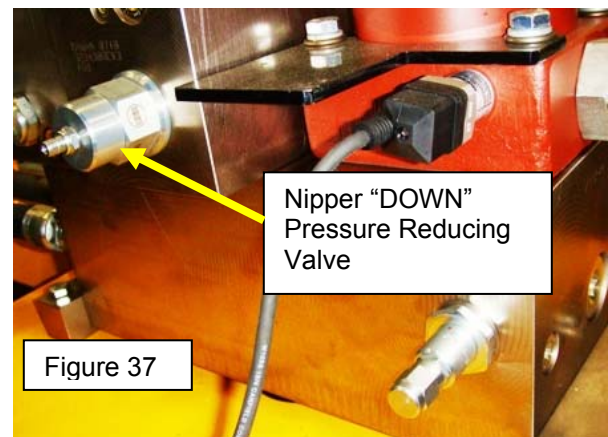

Figure 37
6. Loosen the lock nut on nipper up pressure reducing valve adjusting screw (Figure 37).
11. Turn the nipper UP pressure reducing valve adjusting screw clockwise (CW) until pressure reads 1200 psi.
6. Loosen the lock nut on nipper DOWN pressure reducing valve adjusting screw (Figure 37).
10. Loosen the nipper DOWN pressure reducing valve adjusting screw lock nut (Figure 37).
11. Turn the nipper DOWN pressure reducing valve adjusting screw clockwise (CW) until pressure reads 1200 psi.